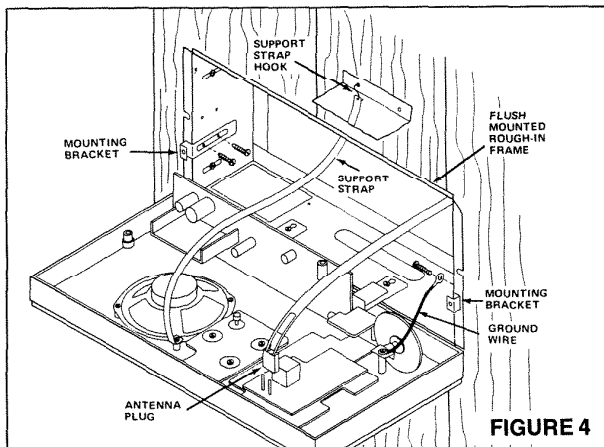

FIGURE 4
3. Disconnect the ground wire from the rough-in frame. (See Figure 4.)
4. Remove the antenna connection from the tuner board. (See Figure 4.)
7. While supporting the master station, unhook the support strap from the rough-in frame. (See Figure 4.)